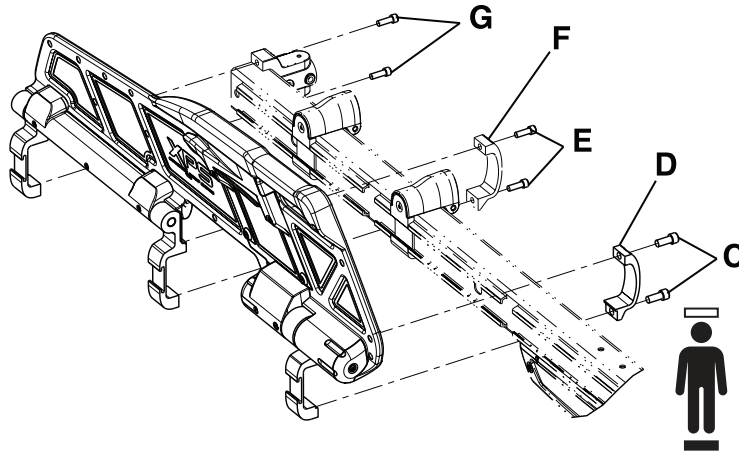

Figure 25: Remove the siderail assembly
5. Using a 1/4" hex wrench, remove the socket head cap screws (C) that secure the siderail clamp (D) to the ratchet assembly at the foot end of the main assembly (Figure 25 on page 58). When reinstalling, use a torque wrench to torque both new screws to 22 ± 3.3 ft-lb.
6. Using a 3/16" hex wrench, remove the two socket head cap screws (E) that secure the middle siderail clamp (F) to the outer rail assembly (Figure 25 on page 58).
- Using a 3/16" hex wrench, remove the two socket head cap screws (G) that secure the top and bottom of the base/litter interface bracket to the outer rail assembly (Figure 25 on page 57).